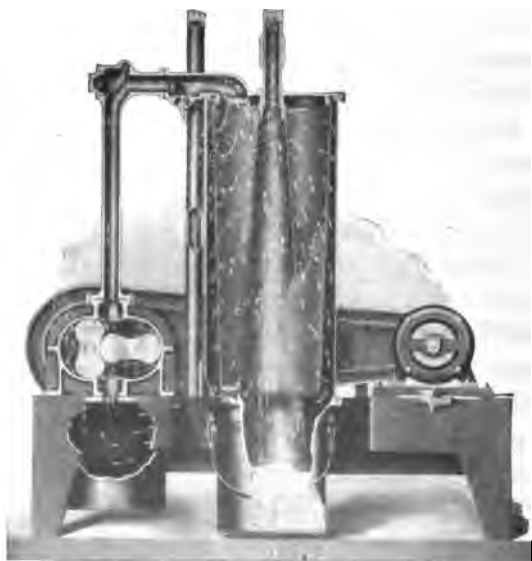

FIG. 53.—Cross-section of an Arco vacuum cleaner.
70. The Vacuum Cleaner.—Fig. 53 consists of a centrifugal air pump which draws in air and dust from the